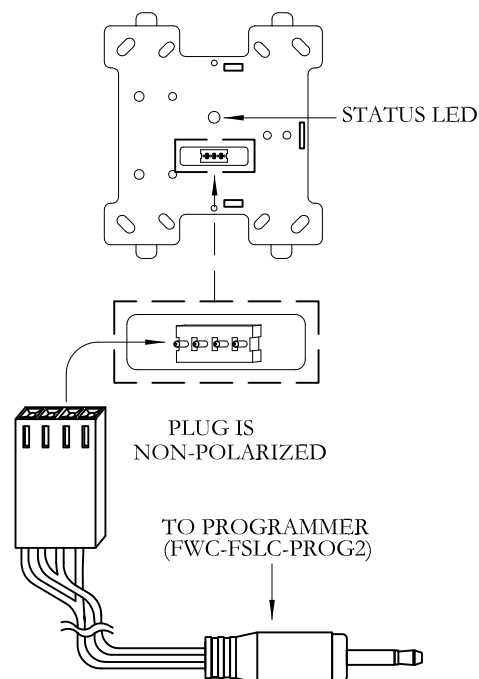

FIGURE 1.
- 3) Address must be set before cover plate is attached with no loop power applied, or the loop wires disconnected (see Figure 1).